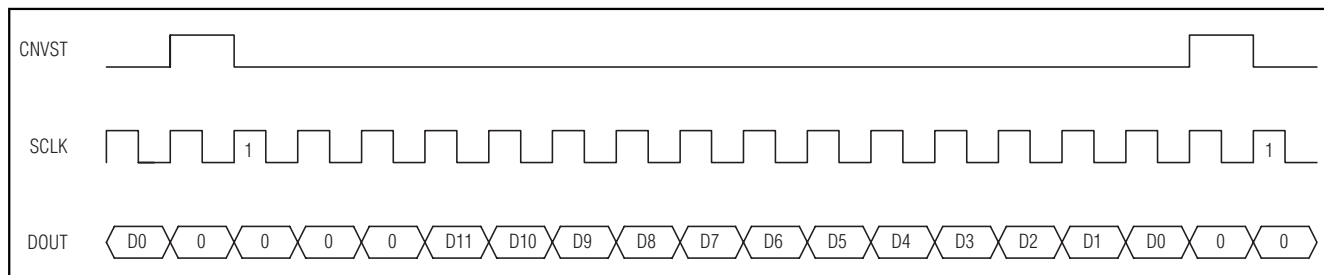
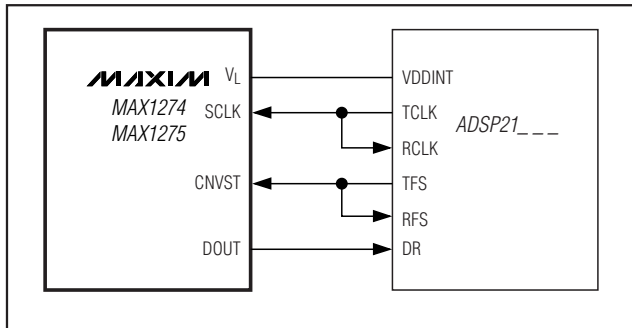

Figure 17. DSP Interface—Continuous Conversion
Figure 19. Interfacing to the ADSP21\_ \_ \_
The MAX1274/MAX1275 can also be connected to the TMS320C54\_ by using the data transmit (DX) pin to drive CNVST and the CLKX generated internally to drive SCLK. A pullup resistor is required on the CNVST signal to keep it high when DX goes high impedance and 0001hex should be written to the DXR continuously for continuous conversions. The power-down modes may be entered by writing 00FFhex to the DXR (see Figures 17 and 18).
The MAX1274/MAX1275 can be directly connected to the ADSP21\_ \_ \_ family of DSPs from Analog Devices, Inc. Figure 19 shows the direct connection of the MAX1274/MAX1275 to the ADSP21\_ \_ \_. There are two modes of operation that can be programmed to interface with the MAX1274/MAX1275. For continuous conversions, idle CNVST low and pulse it high for one clock cycle during the LSB of the previous transmitted word. The ADSP21\_ \_ \_ STCTL and SRCTL registers should be configured for early framing (LAFR = 0) and for an active-high frame (LTFS = 0, LRFS = 0) signal. In this mode, the data-independent frame-sync bit (DITFS = 1) can be selected to eliminate the need for writing to the transmit-data register more than once. For single conversions, idle CNVST high and pulse it low for the entire conversion. The ADSP21\_ \_ \_ STCTL and SRCTL registers should be configured for late framing (LAFR = 1) and for an active-low frame (LTFS = 1, LRFS = 1) signal. This is also the best way to enter the power-down modes by setting the word length to 8 bits (SLEN = 1001). Connect the  $V_L$  pin to the ADSP21\_ \_ \_ supply voltage when the MAX1274/MAX1275 are operating with a supply voltage higher than the DSP supply voltage (see Figures 17 and 18).